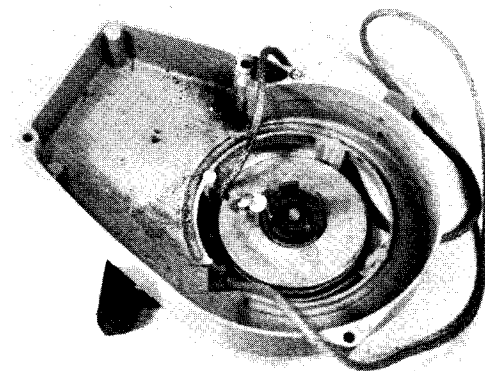

Fig. 77 — Pulley Installed in Housing
6. Reinstall pulley into housing and secure with retaining washer and "E" ring, Fig. 77.